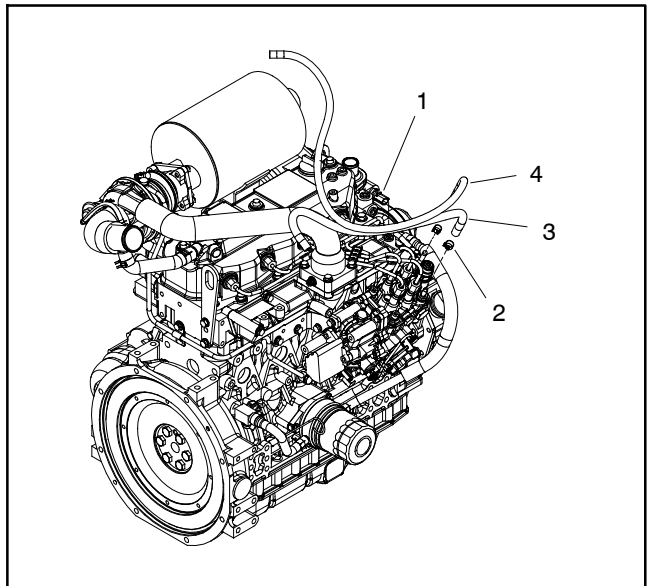

Figure 77
2. Disconnect fuel pump discharge hose from the fuel injection pump fitting on the engine (Fig. 77).